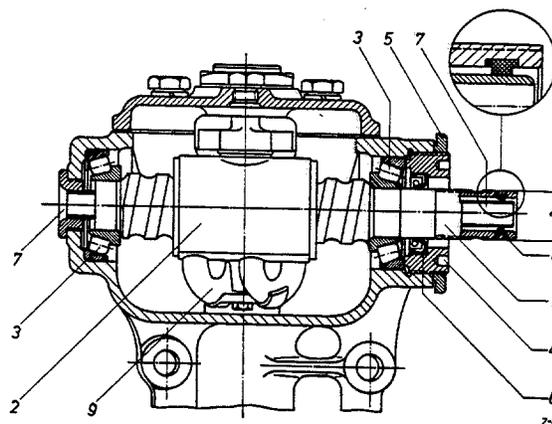

Fig. L 4/5
- Remove the sealing ring (8) for the cable guide tube from the steering worm.
- Then tap out the grease seal (6) from the adjusting ring (4) (Fig. L 4/5) and the grease seal (10) for the steering shaft (1) (see Fig. L 4/6) from the steering housing.